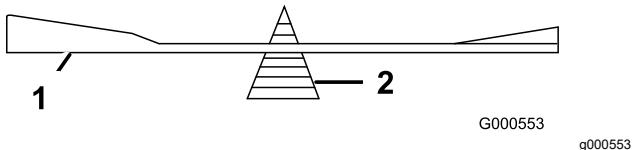

Figure 58
- 2. Check the balance of the blade by putting it on a blade balancer (Figure 58).